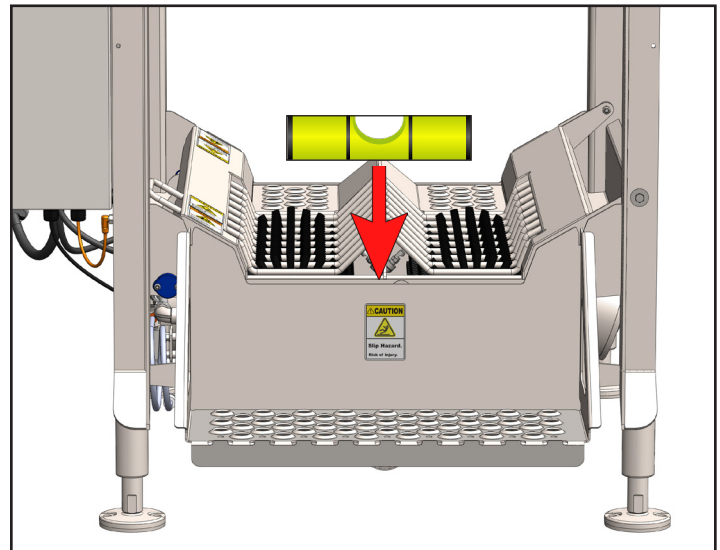

Fig. 5.1: Level and stabilize unit using level against end cap of tub
3. Use a level to make sure the unit is stable and leveled at each end of the tub [Figure 5.1].